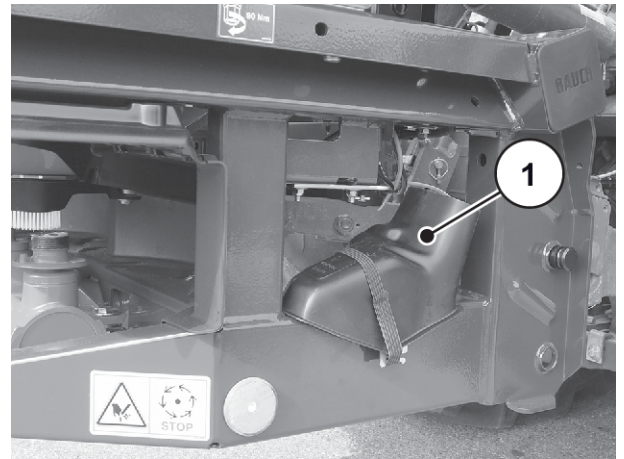

Fig. 35: Position of the calibration test chute
- Prepare the calibration test chute. See *Fig. 35 Position of the calibration test chute*